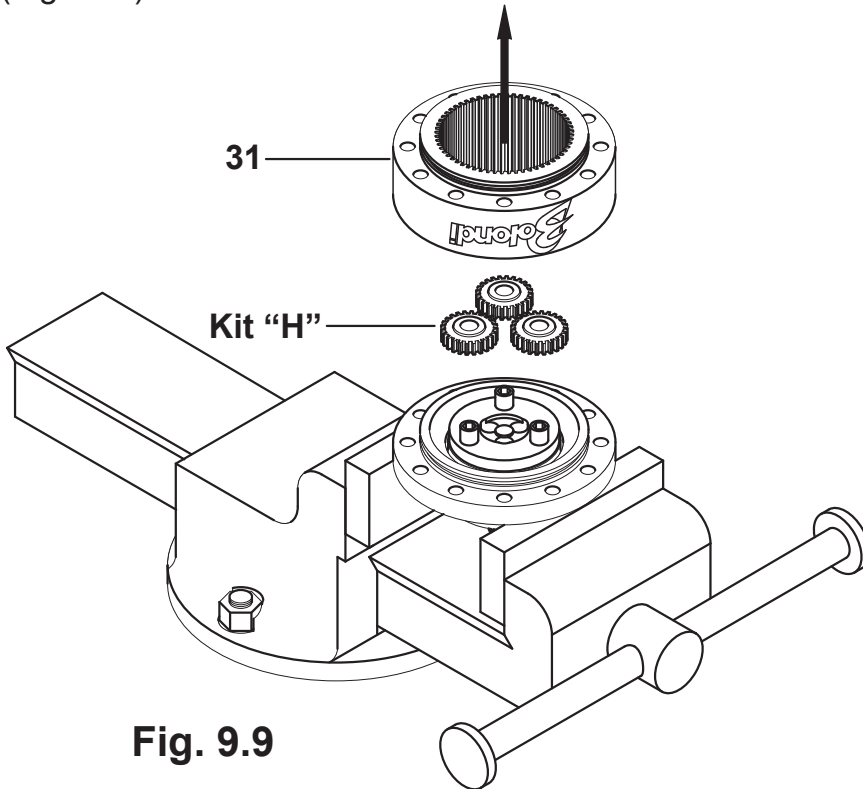

Fig. 9.9
9.3.7) Remove the crown pos.31 and the gears (kit "H") (Fig.9.9).